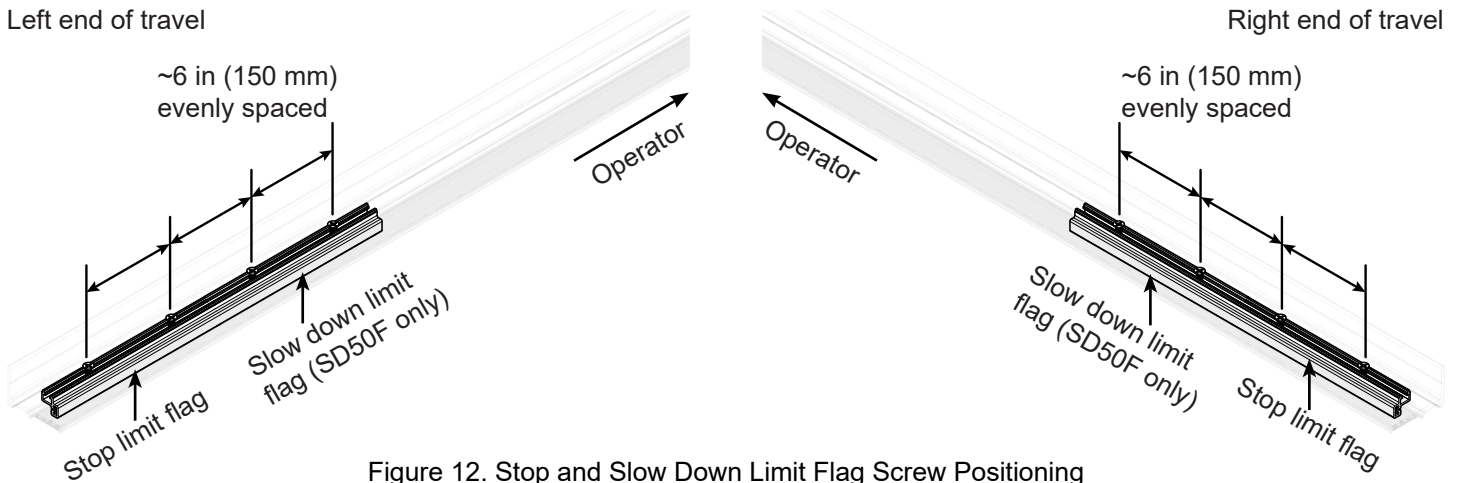

Figure 12. Stop and Slow Down Limit Flag Screw Positioning
13. Install more screws spaced approximately 6 in (152 mm) along the limit flag. 2 screws for a 12 in limit flag or 4 screws for a 24 in limit flag (Figure 12).